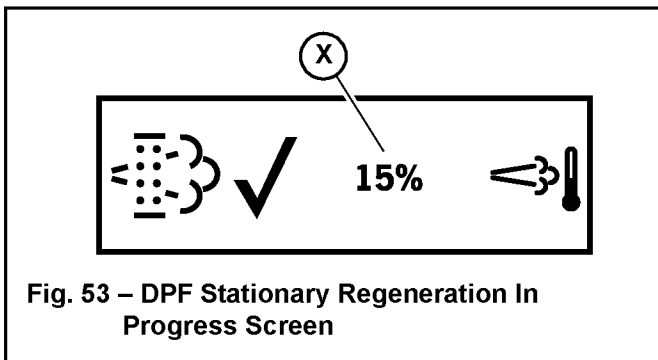

Fig. 53 – DPF Stationary Regeneration In Progress Screen
- b. When engine coolant has reached operating temperature (above 140° F / 60° C), a checkmark (O) is displayed next to the coolant temperature icon.
- c. Place throttle controls to the lowest speed setting. A checkmark (P) is displayed next to the slow engine speed icon when the engine is running at low idle.
3. When all three checkmarks (M, O & P) are displayed on the stationary regeneration request screen, press and hold the interface button on the multi-function display until the DPF Stationary Regeneration In Progress screen (Fig 53) is displayed.
4. Stationary regeneration progress is displayed in the center (X, Fig 53) of the DPF Stationary Regeneration In Progress Screen.